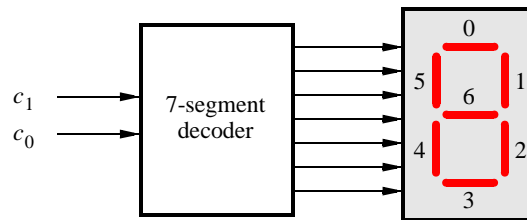

Figure 6: A 7-segment decoder.
The objective of this part is to display a character on a 7-segment display. The specific character displayed depends on a two-bit input. Figure 6 shows a 7-segment decoder module that has the two-bit input  $c_1c_0$ . This decoder produces seven outputs that are used to display a character on a 7-segment display. Table 3 lists the characters that should be displayed for each valuation of  $c_1c_0$  for your DE-series board. Three characters are included plus the 'blank' character, which is selected for code 11.
2. Create a Verilog module for the 7-segment decoder. Connect the  $c_1c_0$  inputs to switches  $SW_{1-0}$ , and connect the outputs of the decoder to the *HEX0* display on your DE-series board. The segments in this display are called  $HEX0_0, HEX0_1, \dots, HEX0_6$ , corresponding to Figure 6. You should declare the 7-bit port